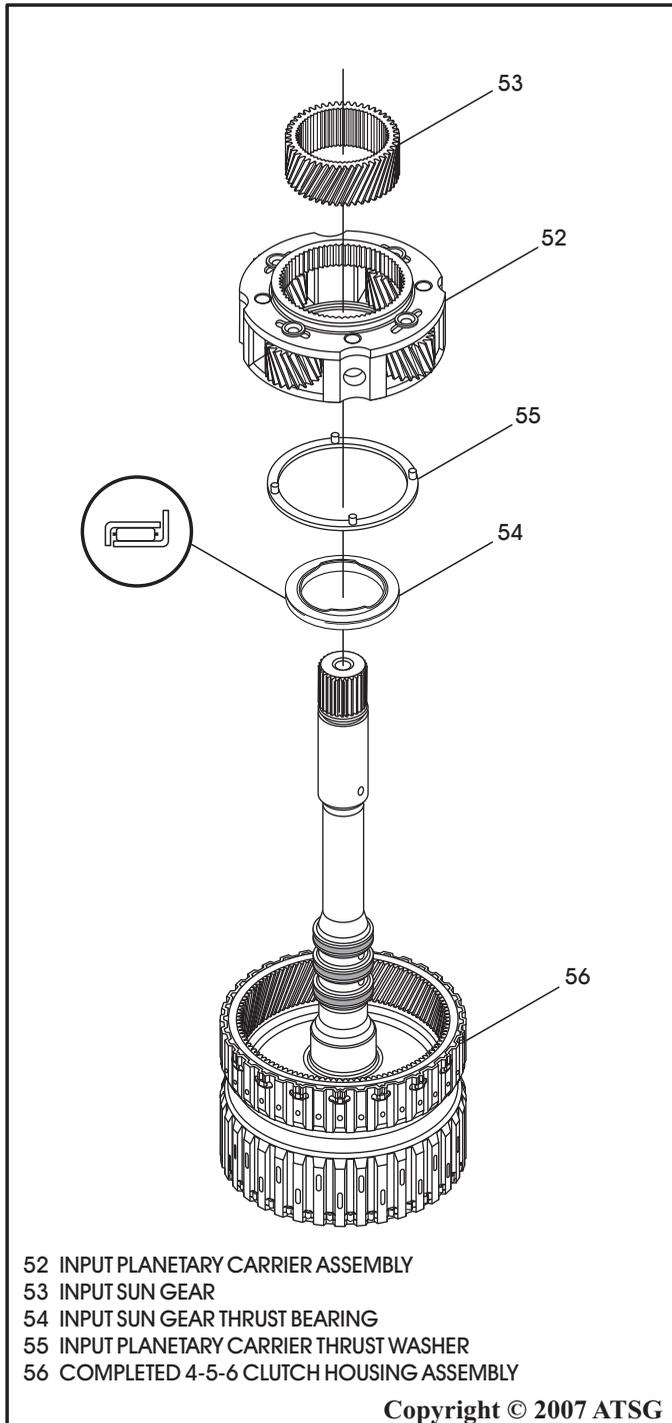

Figure 160
16. Install the input sun gear thrust bearing into the 4-5-6 clutch housing in the direction shown in Figure 160.